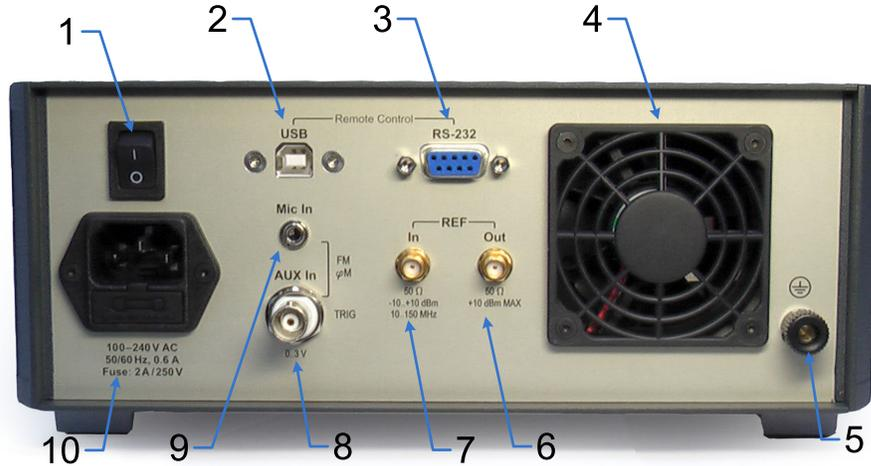

Figure 5: Rear panel view
2. Verify that rear panel AC power ON/OFF switch (item 1, fig. 5) is turned off.
Figure 5 shows rear panel view of the instrument. Its elements are designated with the following callouts: